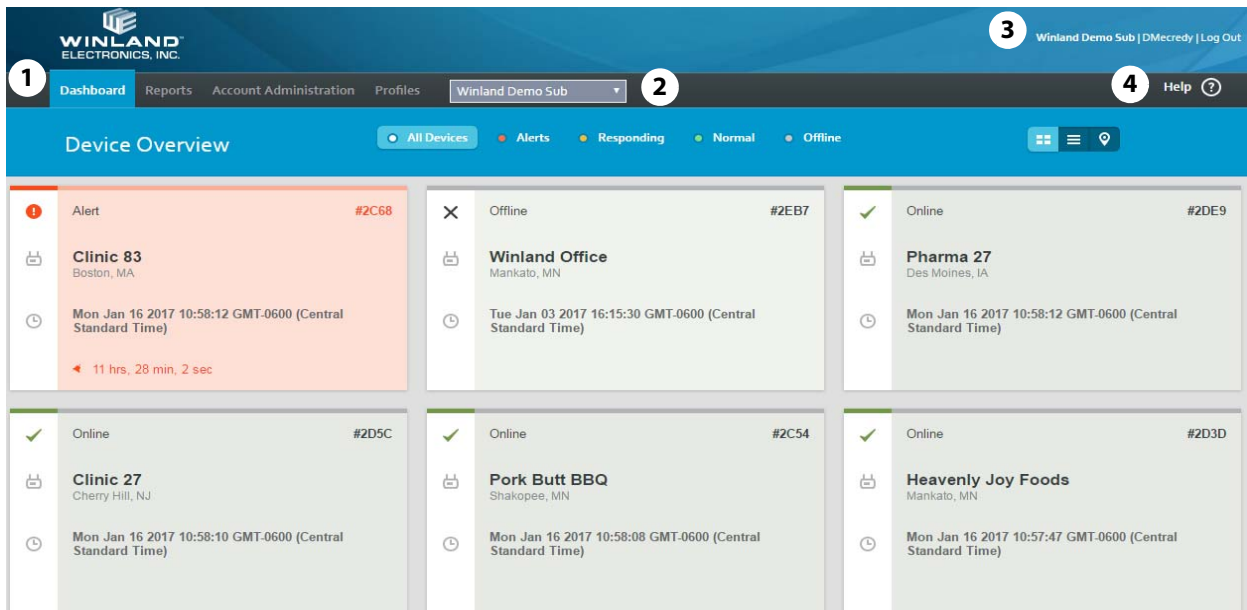

Figure 2-1. INSIGHT User Interface
The INSIGHT platform opens with the dashboard, as shown in Figure 2-1. Common to every application page are the ① menu tabs, the ② customer account selector, the ③ current customer account, User ID, and **Log Out** button, and the ④ **Help** button. The